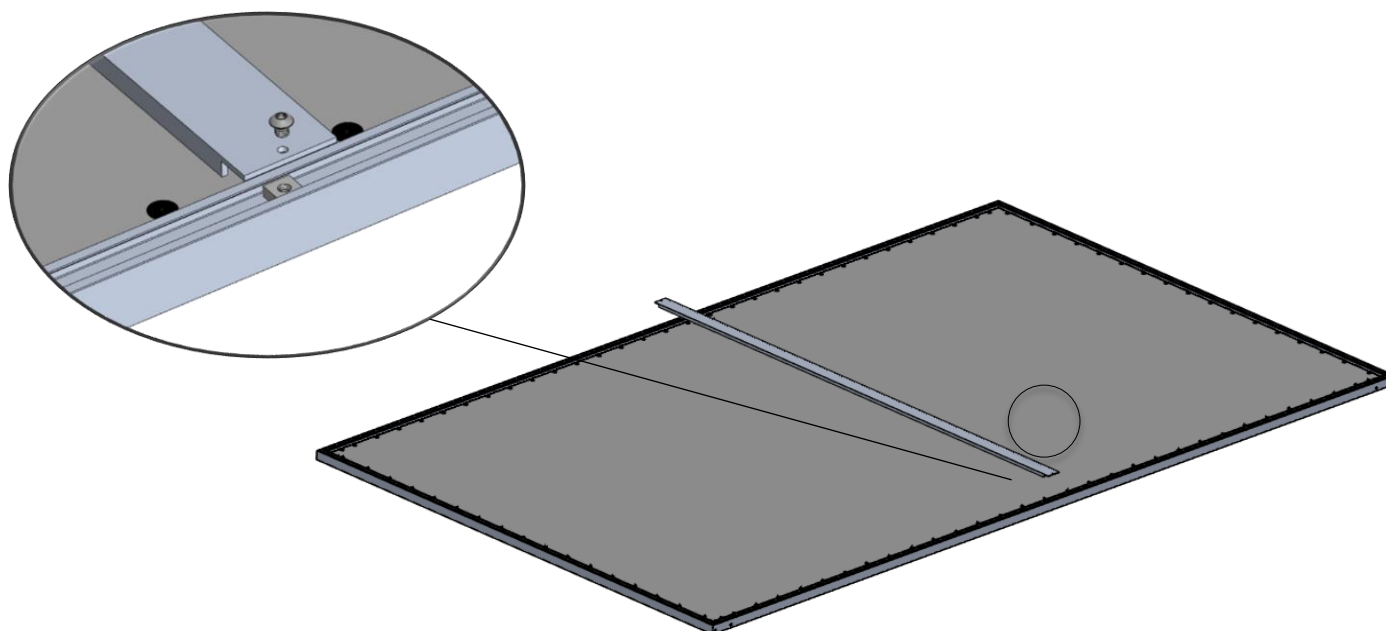

Figure 5: Attaching Back Brace to the Frame
11. Lift the frame with the bottom row of the screen unattached, and attach the back brace to the frame between two snaps near the center with the provided screws or other appropriate fastener (See figure 5)